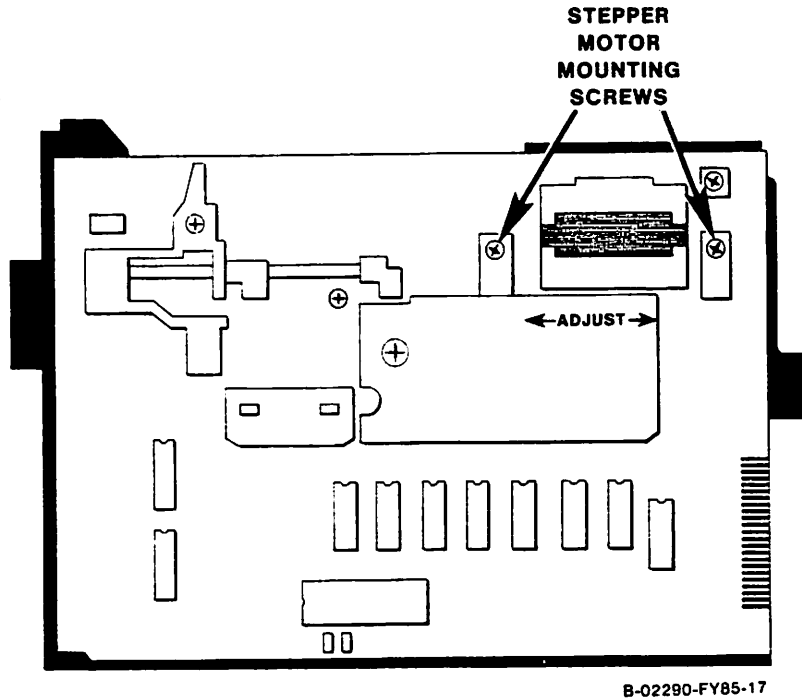

Figure J-3. Stepper Motor Mounting Screw Locations
- a) Loosen the two mounting screws that hold the stepper motor to the base casting (figure J-3).